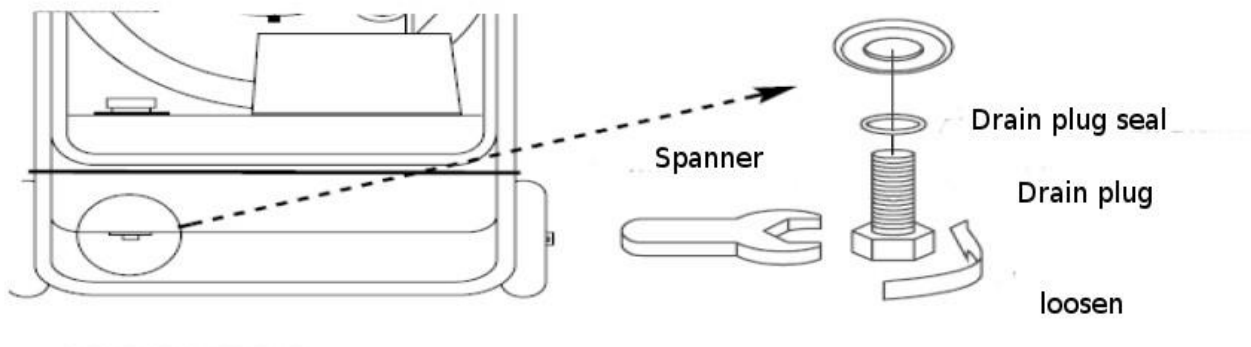

Fig. 17
1. Remove the tank cap and the drain plug (fig. 17) and empty the tank.